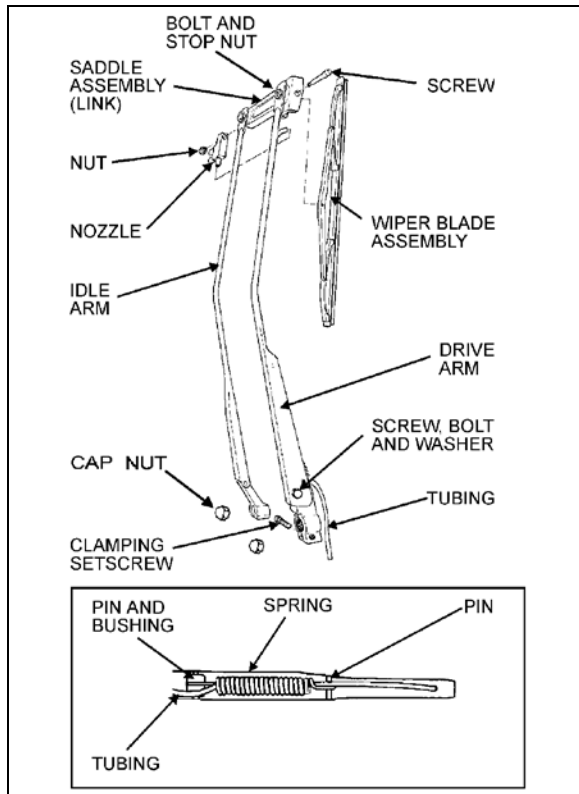
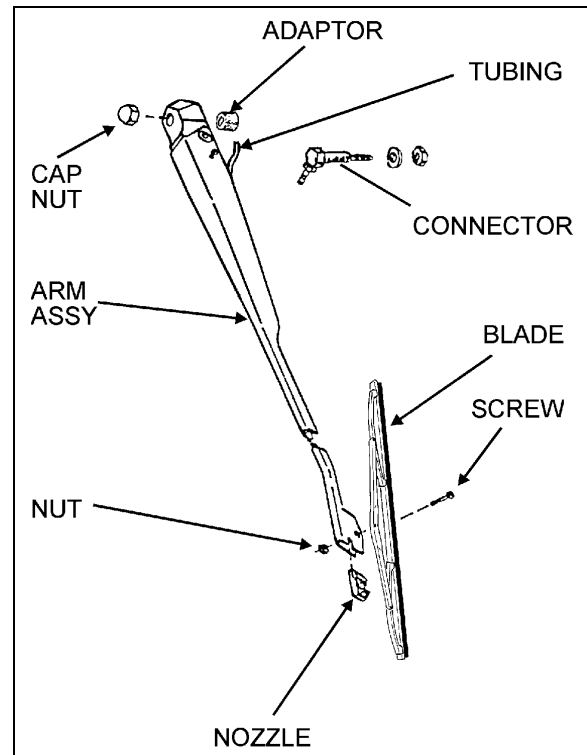

FIGURE 36: LOWER WINDSHIELD WIPER 23086
FIGURE 37: UPPER WINDSHIELD WIPER 23087
1. Remove the cap nuts from the wiper arm pivot shafts (Figure 36 & Figure 37);